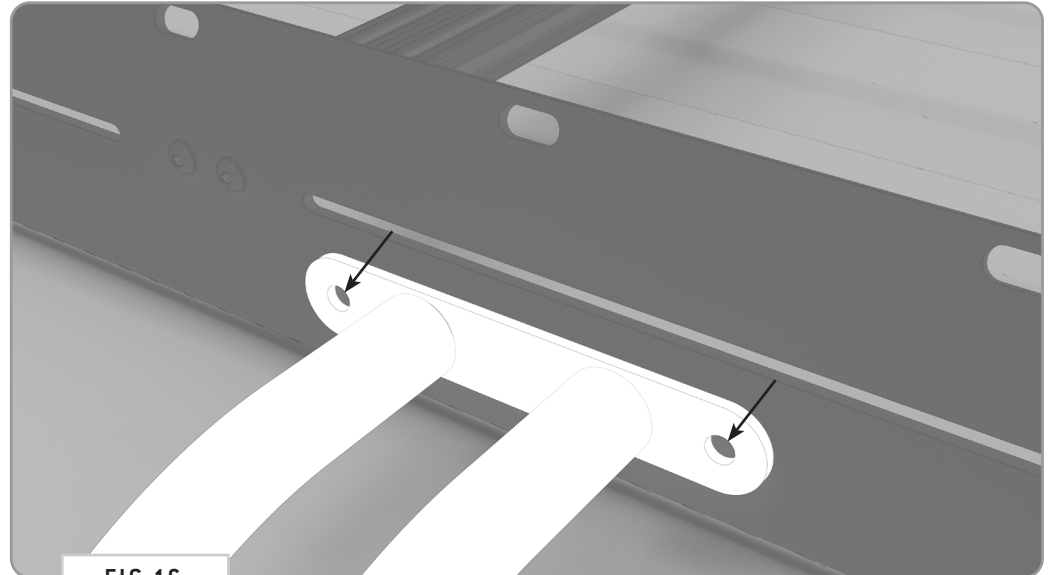

FIG 16
4.1a Mark Drill Holes: Once you have ensured alignment, mark the **Drill Locations** through the mounting points of the **Surf Pole** (**FIG 16**).